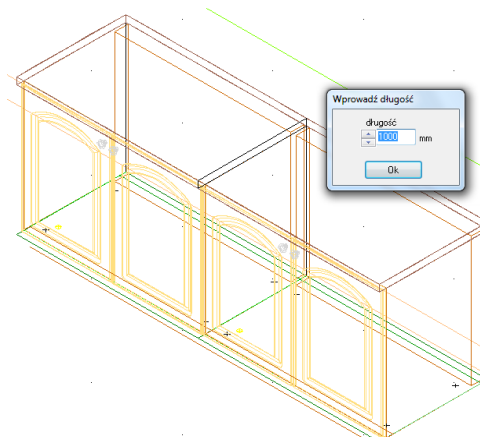

Fig. 198 – cutting typical worktops – project view
- the worktop cut preview is visible in the design together with a dialog where you can enter the length of one of the worktops (fig. 198),